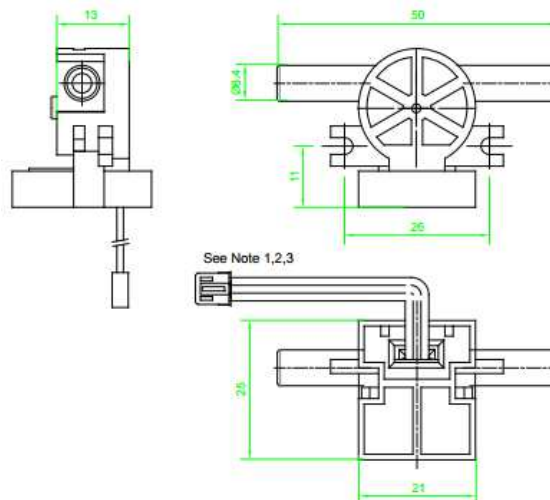

Figure 1 Feature of the water flow sensor.
- The Sensor feature is shown in Figure 1, dimension and tolerances of all external Sensor features (height, width, length, location etc) are relevant to packaging fit and must be specified on the Part Drawing.
- The wire layout of the Sensor is shown in Figure 1, the exact connection of each wire and colour order must be specified on the Part Drawing. Red – Vcc, Black – Ground, White - Vout